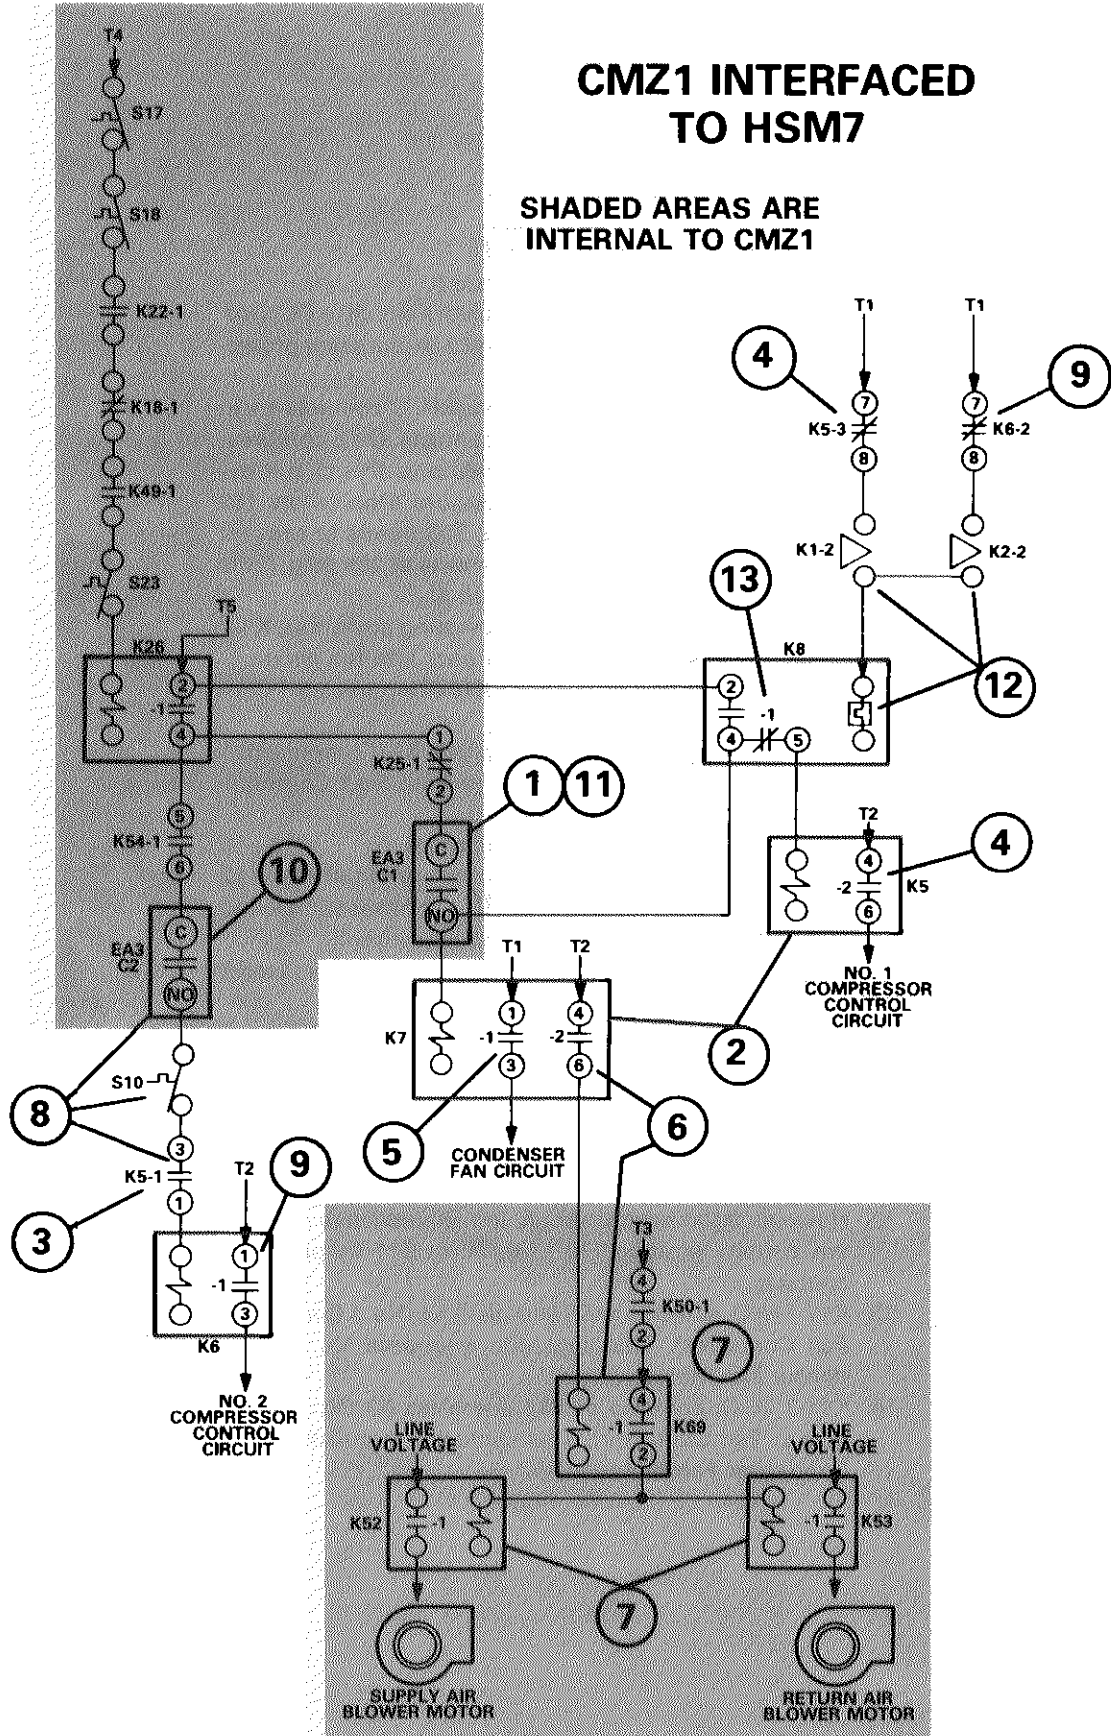
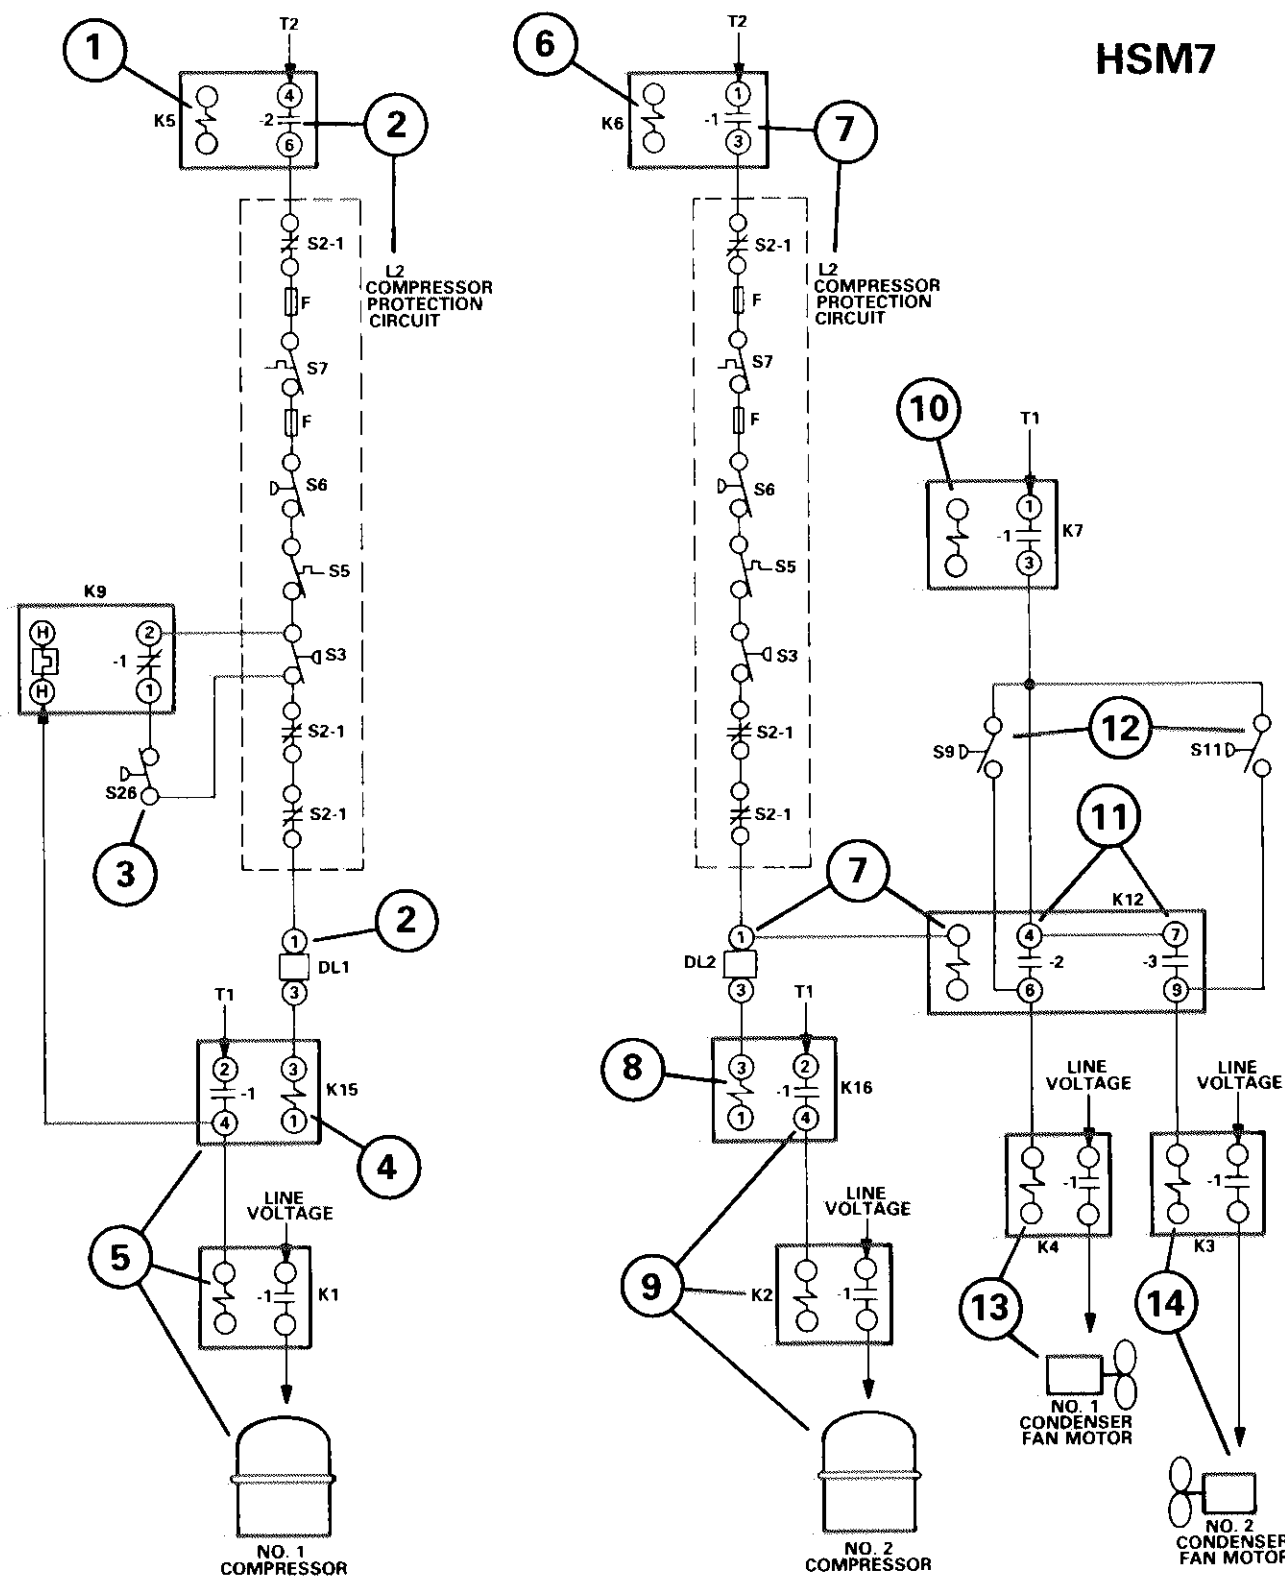

FIGURE 6
FIGURE 7
Figure 6 explains the interface between the HSM7 and the CMZ1 and Figure 7 continues with the HSM7 operation.
A - CMZ1 Interface to HSM7 (Figure 6)
- 4 - K5-2 N. O. contacts close to energize the No. 1 compressor control circuit. Refer to step 2 in Figure 7. K5-3 N. C. contacts also open.
- 5 - K7-1 N. O. contacts close to energize the condenser fan motor circuit. Refer to steps 11 thru 14 in Figure 7.
- 9 - K6-1 N. O. contacts close to energize the No. 2 compressor control circuit. Refer to step 7 in Figure 7. K6-2 N. C. contacts also open.
B - HSM7 Operation (Figure 7)
- 1 - K5 is energized in step 2 of Figure 6.
- 6 - K6 was energized in step 8 of Figure 6.
- 10 - K7 was energized in step 2 of Figure 6.
- 11 - The K12 contacts remain open until the K6 relay is energized in step 8 of Figure 6.